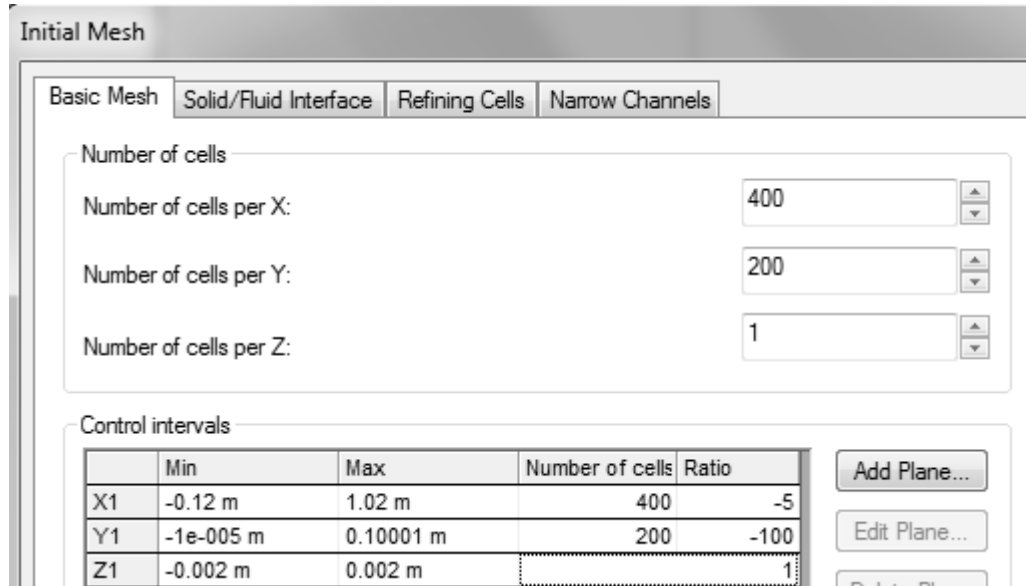

Figure 2.28b) Increasing the number of cells and the distribution of cells
- 2.7 Change the distribution of cells using different values of the ratios in the X and Y directions, see figure 2.28b), for the turbulent boundary layer and plot graphs of the boundary layer thickness, displacement thickness, momentum thickness and local friction coefficient versus Reynolds number for different combinations of ratios. Compare with theoretical results.